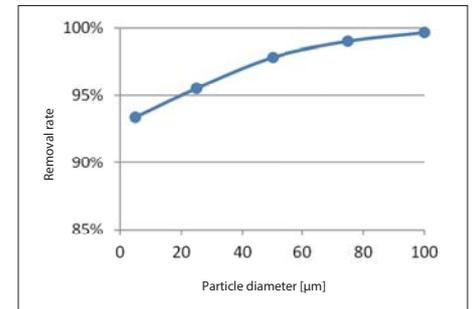

Figure 7: Variation of the sand removal rate depending on the particle diameter
- Figure 7 shows the variation of the sand removal rate depending on the particle diameter, for 5, 25, 50, 75, and 100 μm diameters. The smaller the particle diameter is, the lower the removal rate becomes.